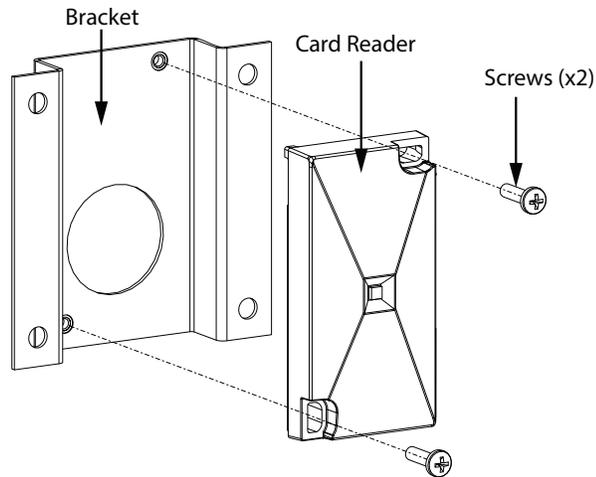
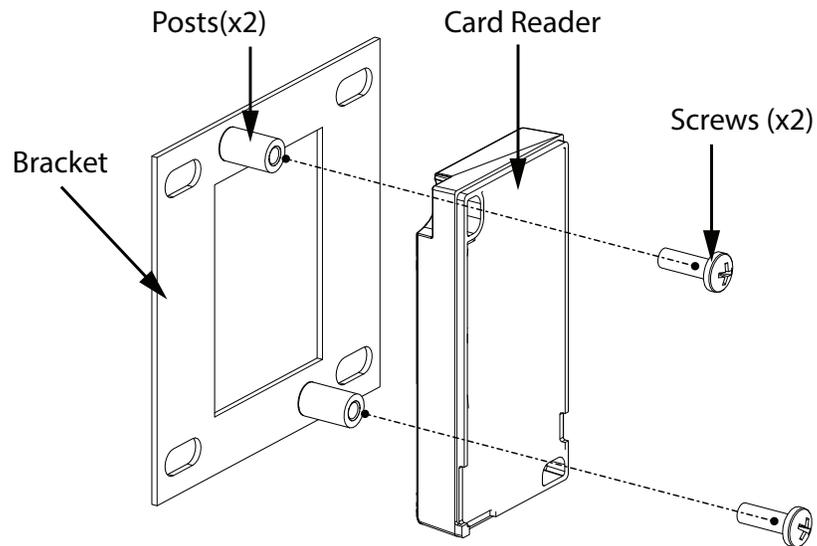

Figure 66. Card reader and old bracket
Figure 67. Card reader and new bracket
3. Remove the current card reader from the bracket and attach the replacement card reader to the bracket with the nuts or screws as shown in Figure 66 and Figure 67.